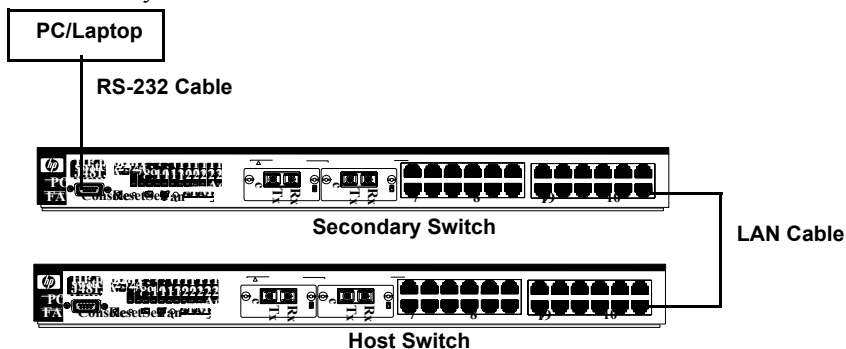

Figure 5-39 Switch to Switch Firmware Setup
Step 3. Make the appropriate connections as shown in Figure 5-39: